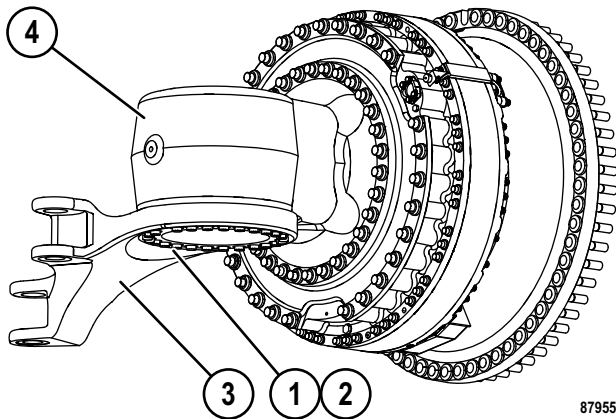

FIGURE 50-65. STEERING ARM REMOVAL
3. Remove remaining 12-point capscrews (1, Figure 50-65) and hardened flat washers (2) that secure steering arm (3) to spindle (4).